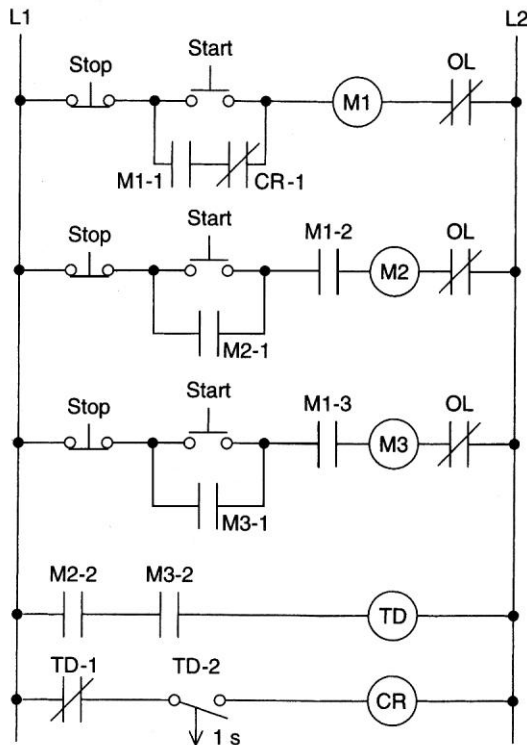

Figure 7-34 Hardwired motor control circuit for assignment 18.
18) Prepare an I/O connection diagram and ladder logic program for the hardwired motor control circuit shown in Figure 7-34. Enter the program into the PLC, and prove its operation. The operation of the process can be summarized as follows: